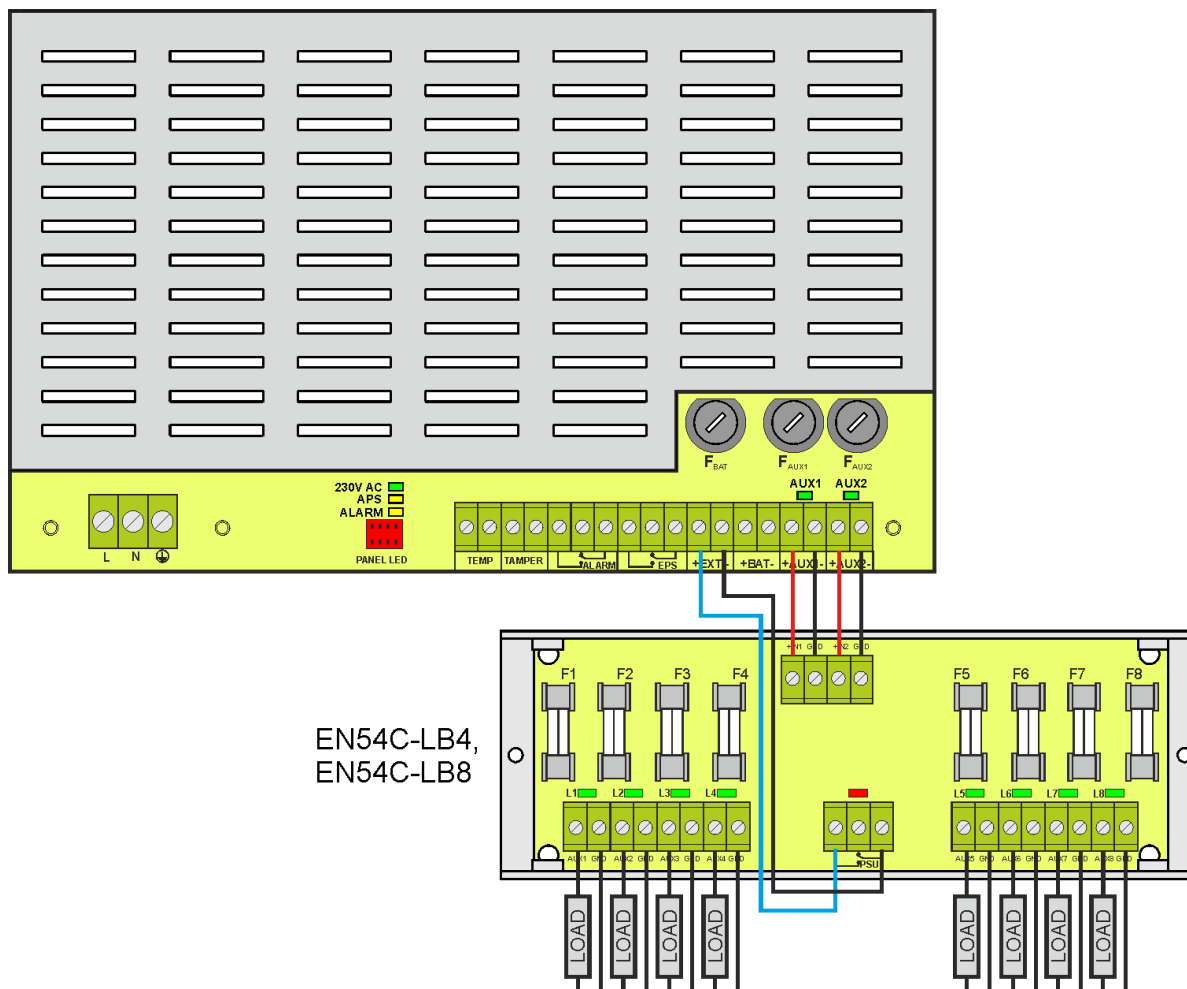

Fig. 11. Example of a connection with the fuse module EN54C-LB8.
- switching the PSU relay output into a no-voltage state (contacts as in Figure 11)